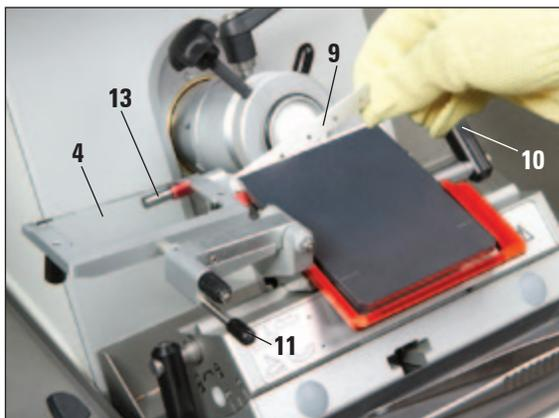

Fig. 7
2. Fold the anti-roll system (4) to the left – while doing so, hold the lever (11) (not the adjusting screw of the anti-roll system) so that the height of the anti-roll system remains unchanged.
3. Open the clamping lever (10) by turning it counterclockwise (Fig. 7).
4. Push the blade ejector lever (13) so that it contacts the left side of the blade and pushes it to the right.
5. Use the magnet on the end of the Leica brush (12) to attach to the exposed right side of the blade.
6. Carefully lift out the blade (9).